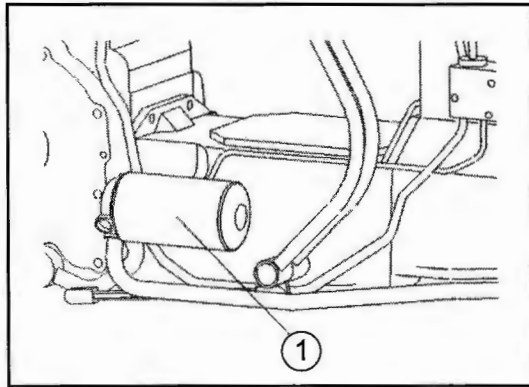

Fig. 33-1 - Transmission Oil Filter
- Unscrew the used filter element (1).
- Idle the engine for a few minutes and check for leaks. If there are any leaks, tighten the filter a little more. (See Fig. 33-1).